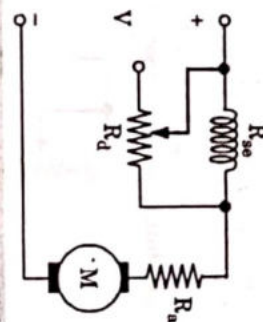

Fig. 3.11.2. Diverter in parallel with the series of DC motor.
8. The variation of field current in a series motor is done by a variable resistance R_d is connected in parallel with the series field windings as shown in Fig. 3.11.2. The parallel resistor is called the diverter. A portion of the main current is diverted through R_d .